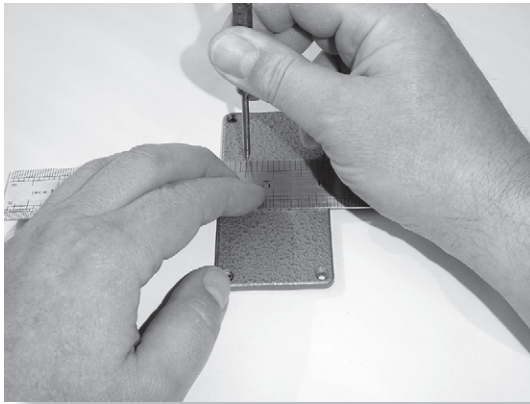

FIGURE 6.10 Marking the position of the two holes required for the potentiometer of Figure 6.9.
- **MARK** the centre of the hole where the potentiometer's threaded stem is to be, and mark the centre of the location stub's hole, as shown in Figure 6.10. The distance between centres depends on the particular potentiometer, as does the angle at which you need to position the two holes relative to horizontal along the line of the housings panel.